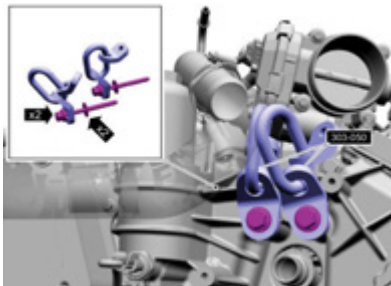

Figure 1
7. Using two M8 x 1.25 x 105 mm bolts and two washers, install the special tools to the engine (303-050 (T70P-6000) Lifting Bracket, Engine). [Figure 1]